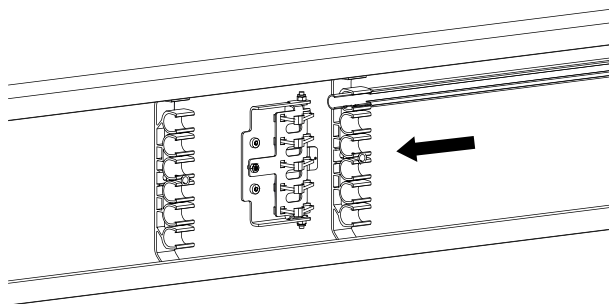

Fig. 9: Slide conductor rail laterally into the hanger clamp and sliding contact sensor unit
- Slide the conductor rails laterally into the sliding contact sensor unit and hanger clamp (see Fig. 9).